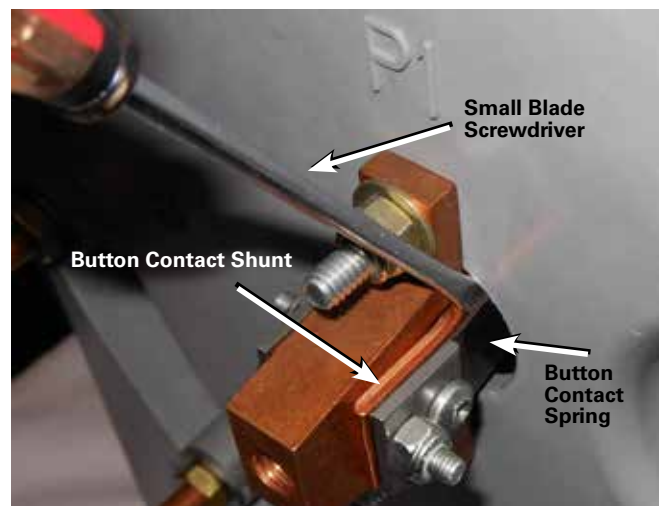

Figure 143. Installing rings into P1 and P2.
13. Position and center the movable contact panel assembly in the molded panel cavity with the contact rings facing the molded panel. Locate the movable contacts in the area of the removed stationary contact. Rotate the movable contact panel and slide the movable contacts onto the neutral stationary contact. Align the contact rings with the button contacts. Refer to Figure 143.
15. For the inner contact ring, from the back of the molded panel, insert a small blade screwdriver between the button contact spring and the button contact shunt on each side of the contact. Refer to Figure 143.